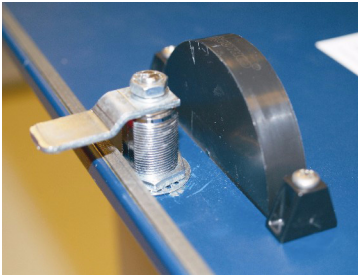

Figure 16 Install lock cam
5. Install latch on top of lock CAM and secure with lock washer and nut using a 7/16" wrench (Figure 16).